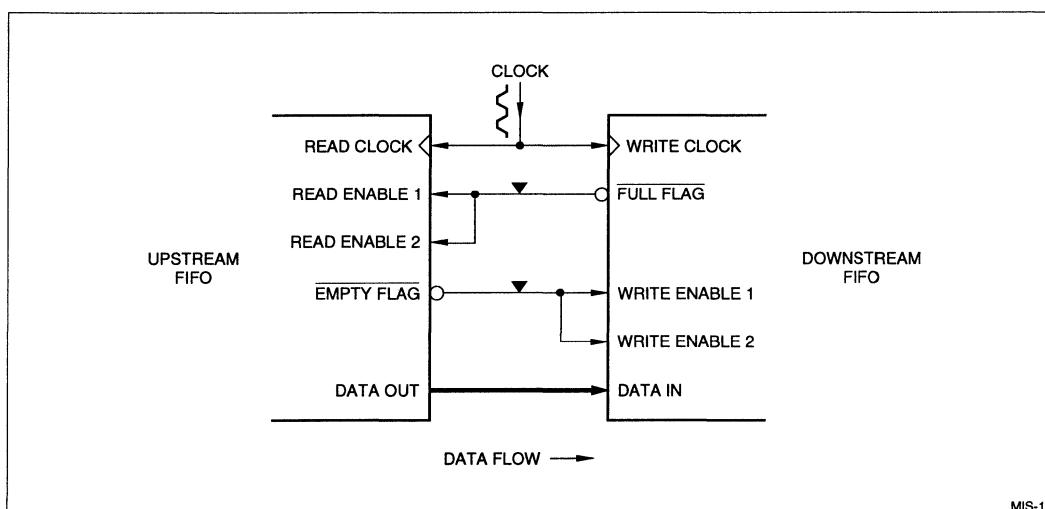

Figure 4. Cascading Interface Between Handclasp-Architecture FIFOs
Apart from the use of the transfer clock, the handclasp interconnections between a FIFO and its downstream successor in the cascade look very similar to those for asynchronous-handshake FIFOs; see Figure 4. The downstream FIFO’s Full Flag is connected to both of the upstream FIFO’s Read Enable inputs; and the upstream FIFO’s Empty Flag is connected to both of the downstream FIFO’s Write Enable inputs. It is all right to connect duplicate enables together at the FIFO ports *interior* to the cascade; although the duplicate-enable functionality often is needed at the two extreme ends (input and output)
- [3] Preliminary Datasheet, Sharp LH540215/25 512x18/1024x18 Synchronous FIFO, *1993 Sharp Memory Data Book*, pages 5-226 to 5-262. Refer in particular to Table 5 and to Figure 4.